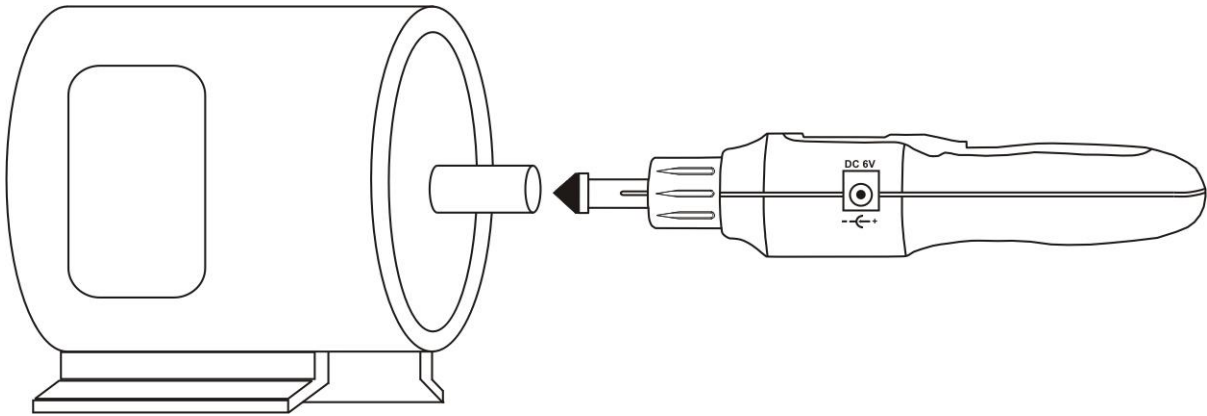

Fig. 3: Speed measurement with contact
5. Press and hold the **MEAS** key, pushing the rubber head against the shaft of the object to be measured (see Fig. 3) and perform the measurement. The “(H)” symbol is always shown at display during measurements.